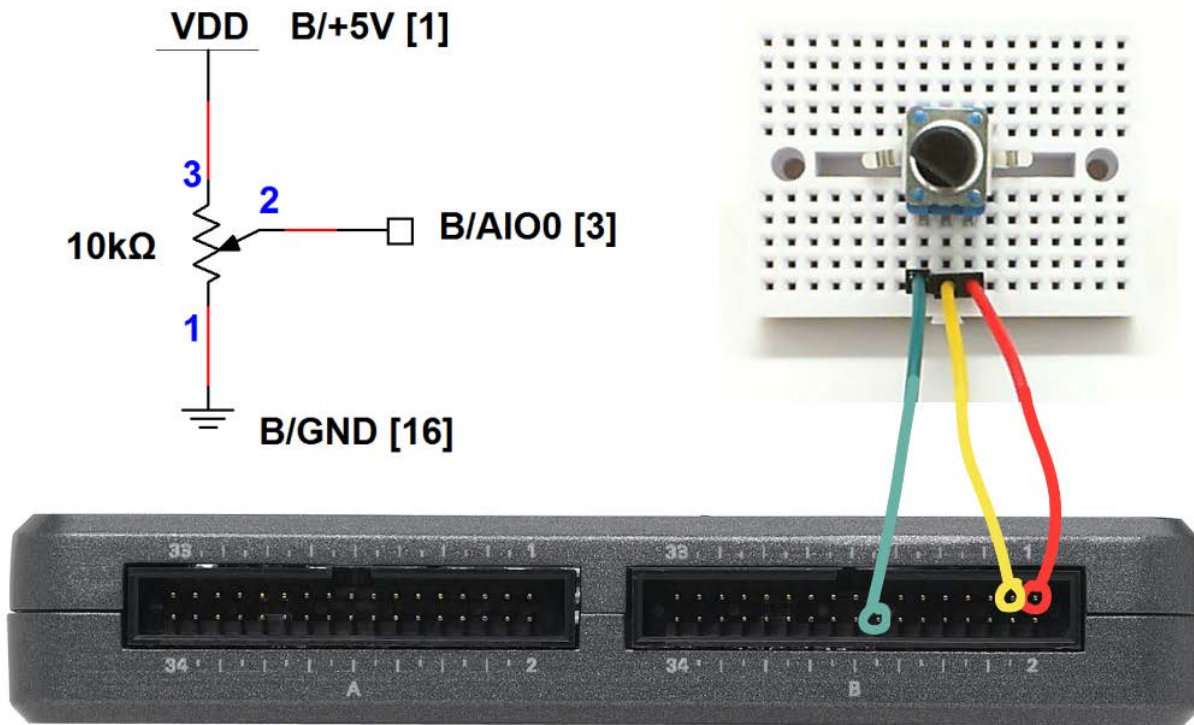

Figure 7.2: Demonstration circuit for potentiometer: schematic diagram, recommended breadboard layout, and connection to NI myRIO MXP Connector B.
**Build the interface circuit:** Refer to the schematic diagram and recommended breadboard layout shown in Figure 7.2 on page 29.